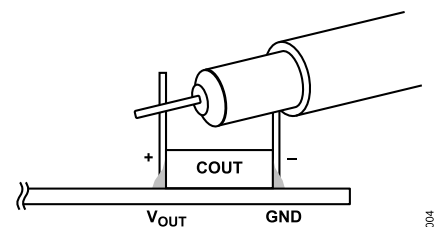

Figure 4. Measuring Output Voltage Ripple
2. When measuring the output or input voltage ripple, do not use the long ground lead on the oscilloscope probe. See Figure 4 for the proper scope probe technique. Short, stiff leads must be soldered to the (+) and (-) terminals of an output capacitor. The probe's ground ring needs to touch the (-) lead and the probe tip needs to touch the (+) lead.